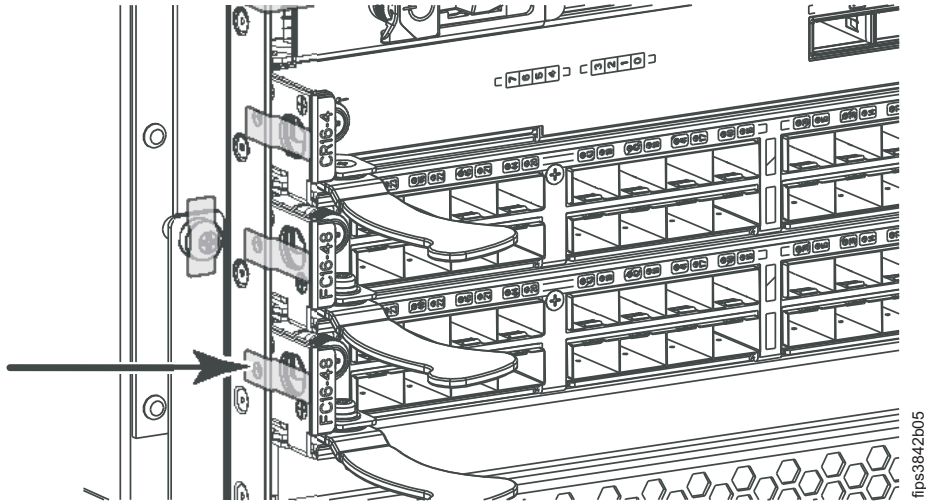

Figure 37. Blade FIPS seal application for 2499-416 port blade with stainless steel ejector handles
Figure 37 on page 38 shows the seal location on the blades with stainless steel ejector handles on the 2499-416. Refer to the figure when performing the procedure. Not all blades that are listed in Table 9 are shown, but seal placement is the same for each.
2. Apply one seal beginning on the side of the chassis frame and wrap it onto the surface of the stainless steel ejector handle on the blade, as shown next to the arrow in Figure 37.